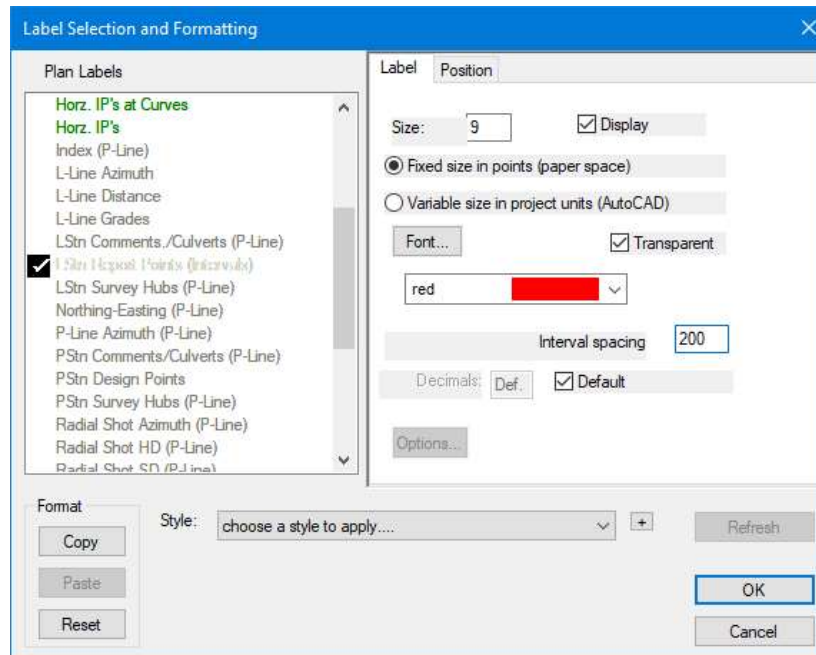

Figure 21-3: Label Selection and Formatting
7. Scroll down in the Plan Labels box, turn on the *LStn Report Points (Intervals)* class by double-clicking. Set the Interval spacing to **200** as shown in Figure 21-3.